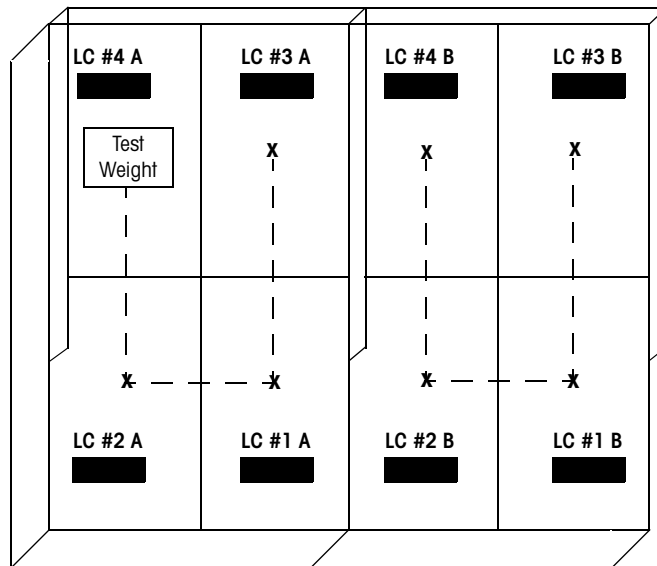

Figure 4-1: Shift Adjust
4. In the standard weighing mode, check the shift adjustment of each scale platform by successively placing a 1,000-pound test weight in each corner (see Figure 4-1). Note and record each weight value.